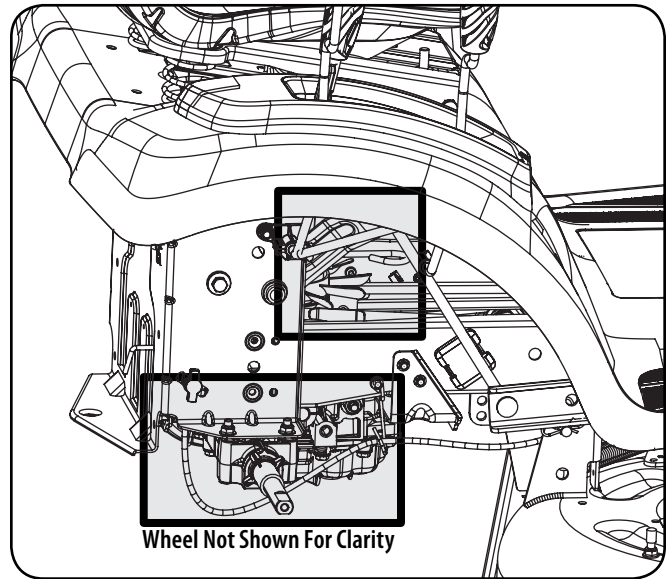

Figure 6-2
- Clean around and near the transmission, axle and the fan area. See Figure 6-2.